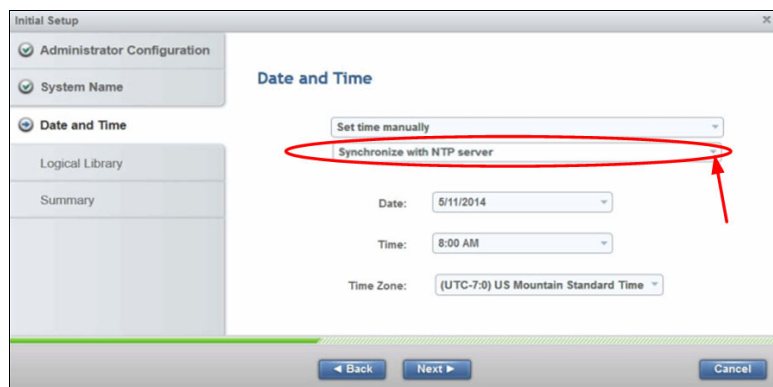

Figure 4-7 Date and time
2. In the next window, you can set the date and time for the library manually. Optionally, you can synchronize with a Network Time Protocol (NTP) server, as shown in Figure 4-7.